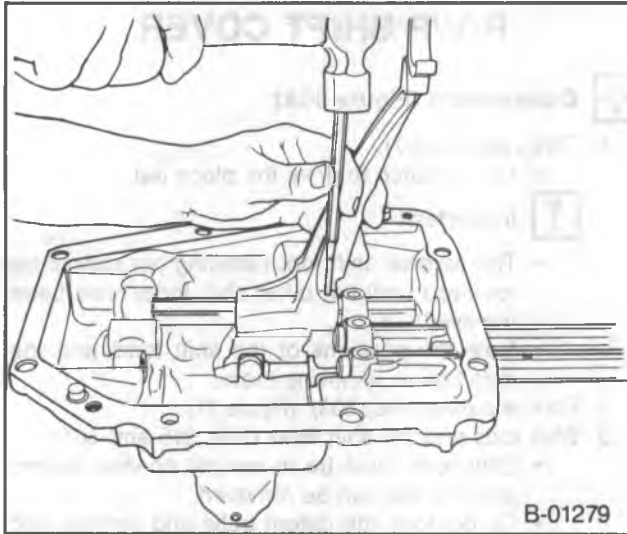

Figure 31—Removing the Retaining Pin
2. Fork retaining pins (303), (figure 31).
4. Interlock balls (306) and the pin (304).
5. Detent balls (213) and the springs (212).
6. Retainer (302) from the plunger (299).
7. Plunger (299) and spring (300) from the reverse shift fork (301).
4. Interlock shuttles (306) and the pin (304).
5. Detent pins (213) and the springs (212) and (308).